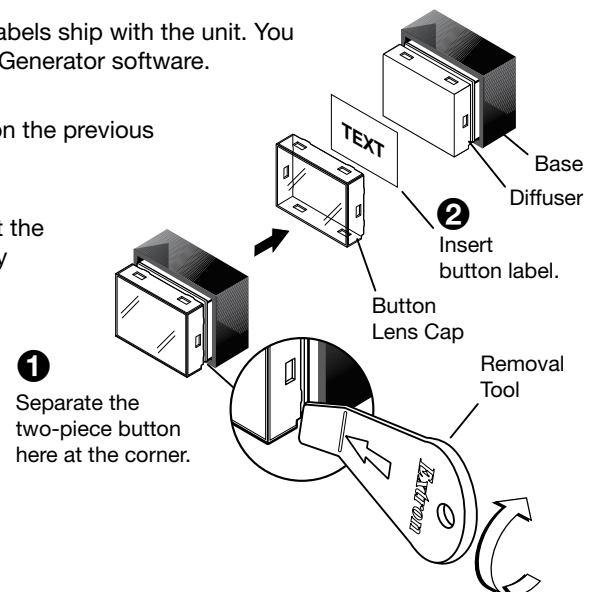

Figure 8. Replacing Buttons on the EBP 104 EU and EBP 104 MK
3. Gently separate the button lens button cap from its white diffuser: insert the end of the provided Extron removal tool into the corner notch and gently twist the tool (see figure 8, ①).